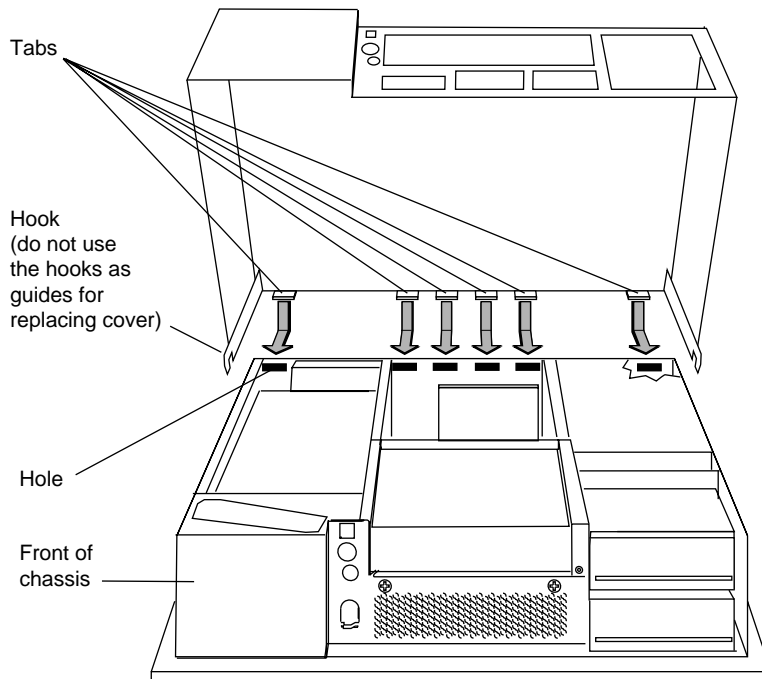

Figure 3-17 Looking Through the Holes to Place the Tabs
1. Locate the tabs on the inside and back of the top cover and the holes on the back of the workstation. See Figure 3-17.